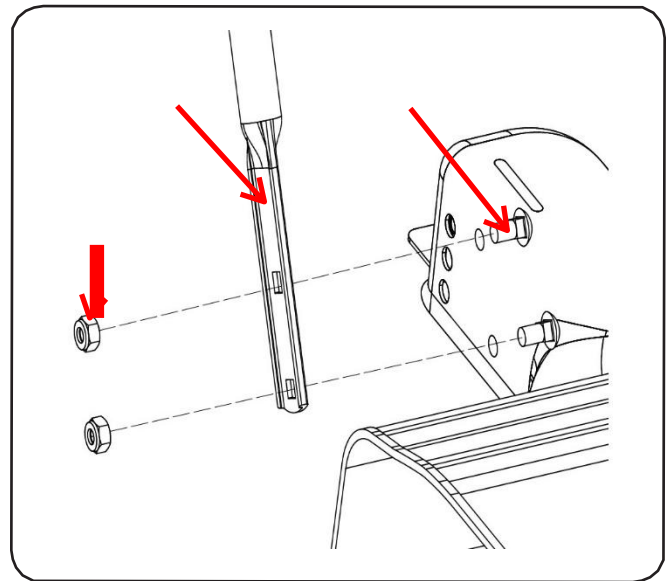

Figure 3-2
3. Secure the lower handle to the deck using the hex screws, shoulder screws, and flange locknuts. See Figure 3-2.